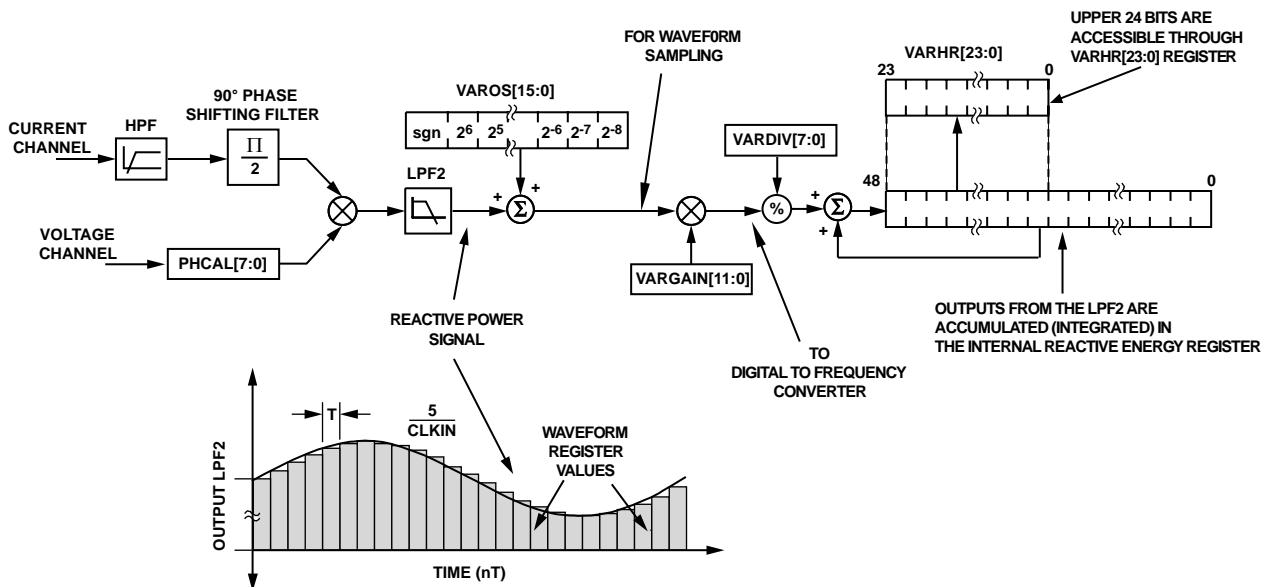

Figure 45. ADE7169F16 Reactive Energy Calculation
Note that the reactive power is equal to the dc component of the instantaneous reactive power signal q(t) in Equation 25. This is the relationship used to calculate reactive power in the ADE7169F16. The instantaneous reactive power signal q(t) is generated by multiplying Voltage and Current channels. In this case, the phase of Current channel is shifted by +90°. The dc component of the instantaneous reactive power signal is then extracted by a low-pass filter in order to obtain the reactive power information – see Figure 45.
Figure 45 shows the signal processing chain for the reactive power calculation in the ADE7169F16. As explained, the reactive power is calculated by low-pass filtering the instantaneous reactive power signal. Note that when reading the waveform samples from the output of LPF2, the gain of the
The ADE7169F16 also incorporates a reactive power offset register (VAROS[15:0]). This is a signed twos complement 16-bit register that can be used to remove offsets in the reactive power calculation—see Figure 45. An offset could exist in the reactive power calculation due to crosstalk between channels on the PCB or in the IC itself. The offset calibration allows the contents of the reactive power register to be maintained at 0 when no power is being consumed.
The discrete time sample period (T) for the accumulation register in the ADE7169F16 is 1.22µs (5/MCLK). As well as calculating the energy, this integration removes any sinusoidal components that might be in the active power signal. Figure 45 shows this discrete time integration or accumulation. The reactive power signal in the waveform register is continuously added to the internal reactive energy register.
energy register is divided by 1. VARDIV is an 8-bit unsigned register. After dividing by VARDIV, the reactive energy is accumulated in a 49-bit internal energy accumulation register. The upper 24 bits of this register are accessible through a read to the reactive energy register (VARHR[23:0]). A read to the RVARHR register returns the content of the VARHR register and the upper 24 bits of the internal register are cleared. As shown in Figure 45, the reactive power signal is accumulated in an internal 49-bit signed register. The reactive power signal can be read from the waveform register by setting the WAVMODE register (0x0D) and setting the WFSM bit in the Interrupt Enable Register 3 SFR (MIRQENH, 0xDB). Like the current and voltage channels waveform sampling modes, the waveform data is available at sample rates of 27.9 kSPS, 14 kSPS, 7 kSPS, or 3.5 kSPS.